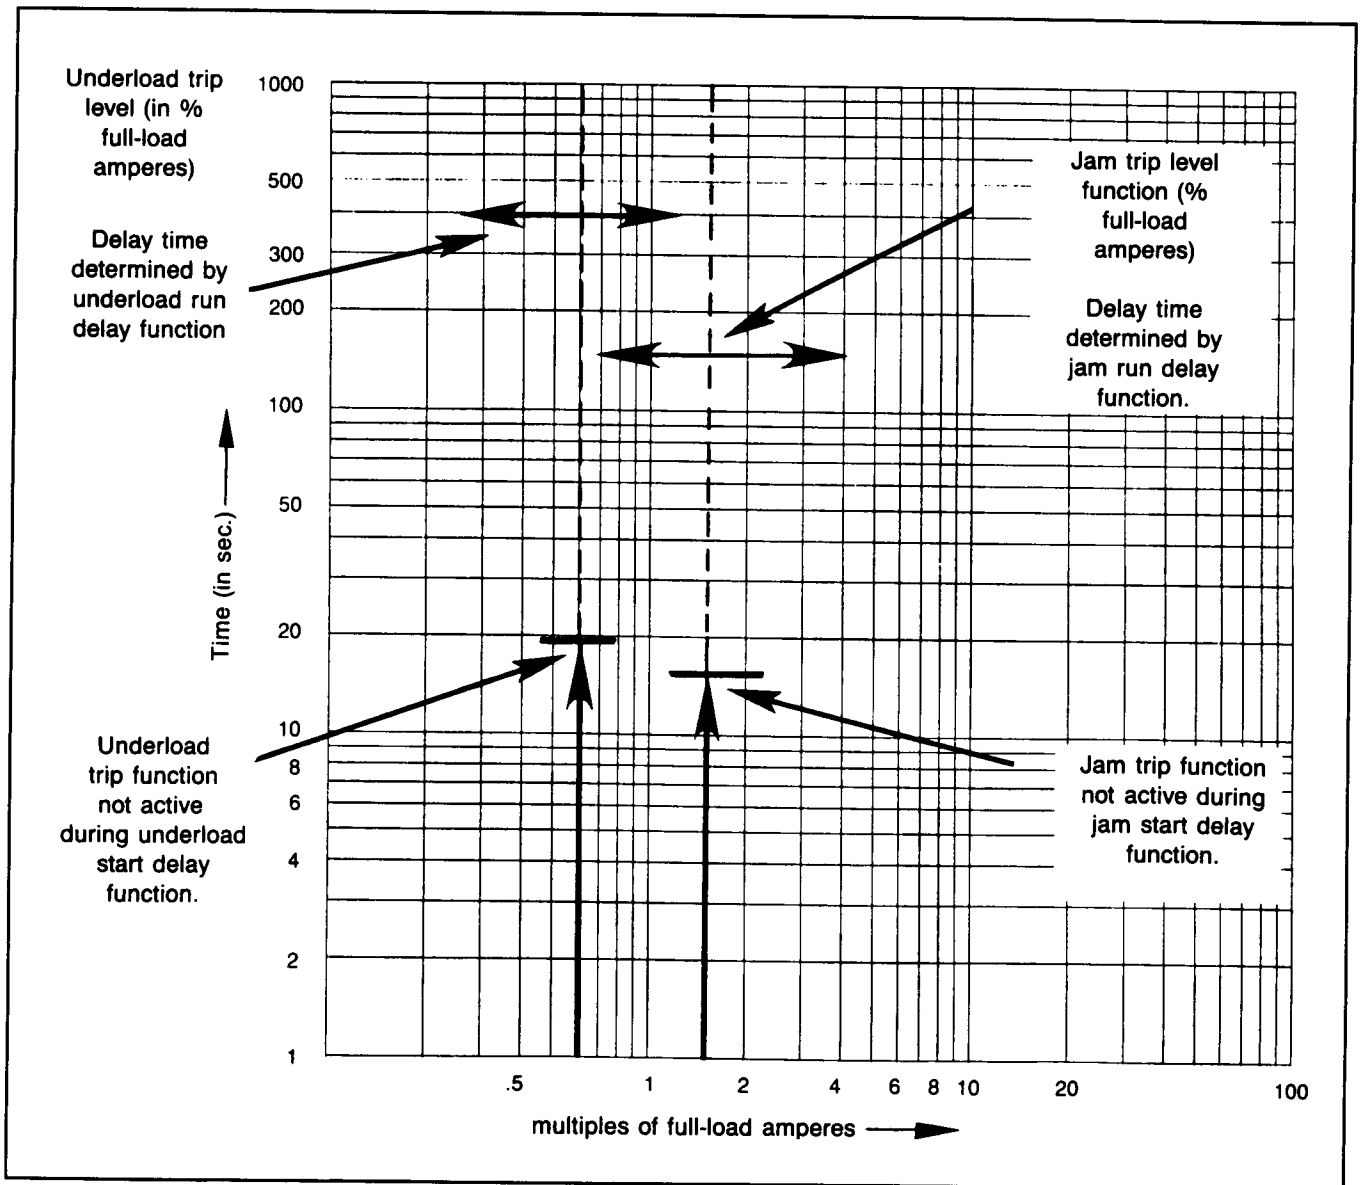

Figure 7.3 — Jam Protection Curve
7.1.3.5 Jam Functions — Once the motor is running, if the monitored current level exceeds the set point entered for the jam trip level (item 23), a trip occurs. (See Figure 7.3 in which the jam trip set point is 180% of full-load current.) An alarm level can also be programmed for jam (item 22).